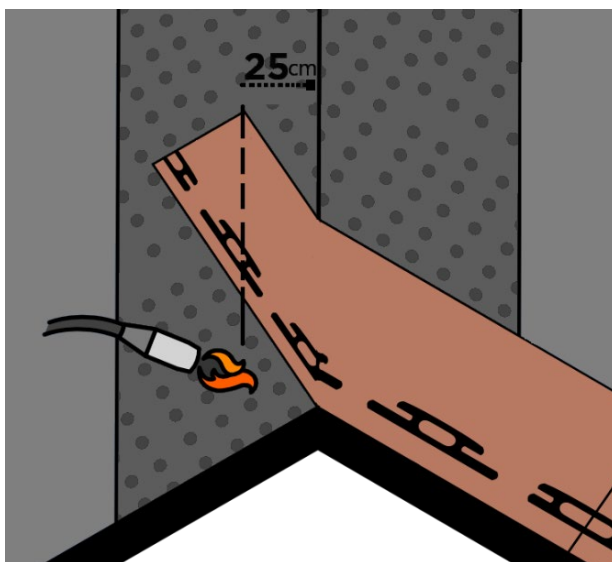

Fig. 20 – Shingles installation by torch at the valley
- As for the roof valleys, prepare a band of bituminous membrane about 100cm wide, applied by torch in advance, to ensure its waterproofing. Starting from a pitch, lay the bituminous shingles in rows, starting with the starting row shingles, so that the shingles pass at least 25 cm above the axis of the valley. Fix them by torch, always heating the membrane and do not torch directly the back of the shingle. Proceed at the same way with the first-row shingles. It is advisable to cut the shingles along the 25cm line parallel to the valley once the elements are installed – Fig. 20.